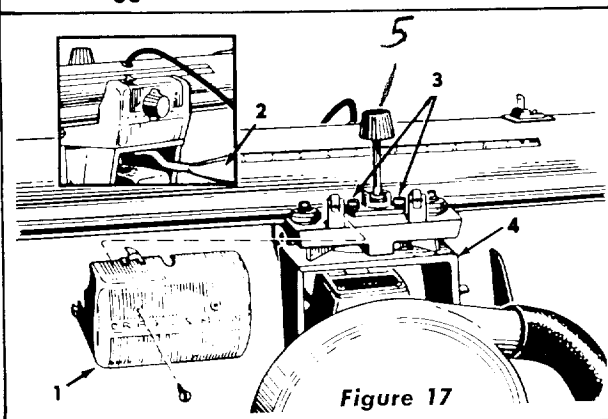

Figure 17
- To correct for heel, proceed with items 4 through 10.
- Remove left hand carriage cover (item 1, figure 17).
- Loosen yoke clamp handle (Item 2, figure 17) by pulling the handle horizontally toward the front of the saw.
- Slightly loosen the two socket head cap screws (Item 3, figure 17).
- Relock yoke by pushing the yoke clamp handle toward the rear of the saw and retighten the two socket head cap screws (Item 3, figure 17).